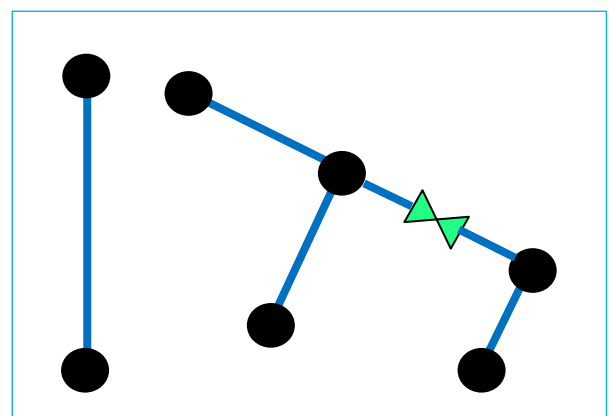

Figure 4 – Orphan facility
- Orphan facilities: A pipe not connected to anything else. See Figure 4.